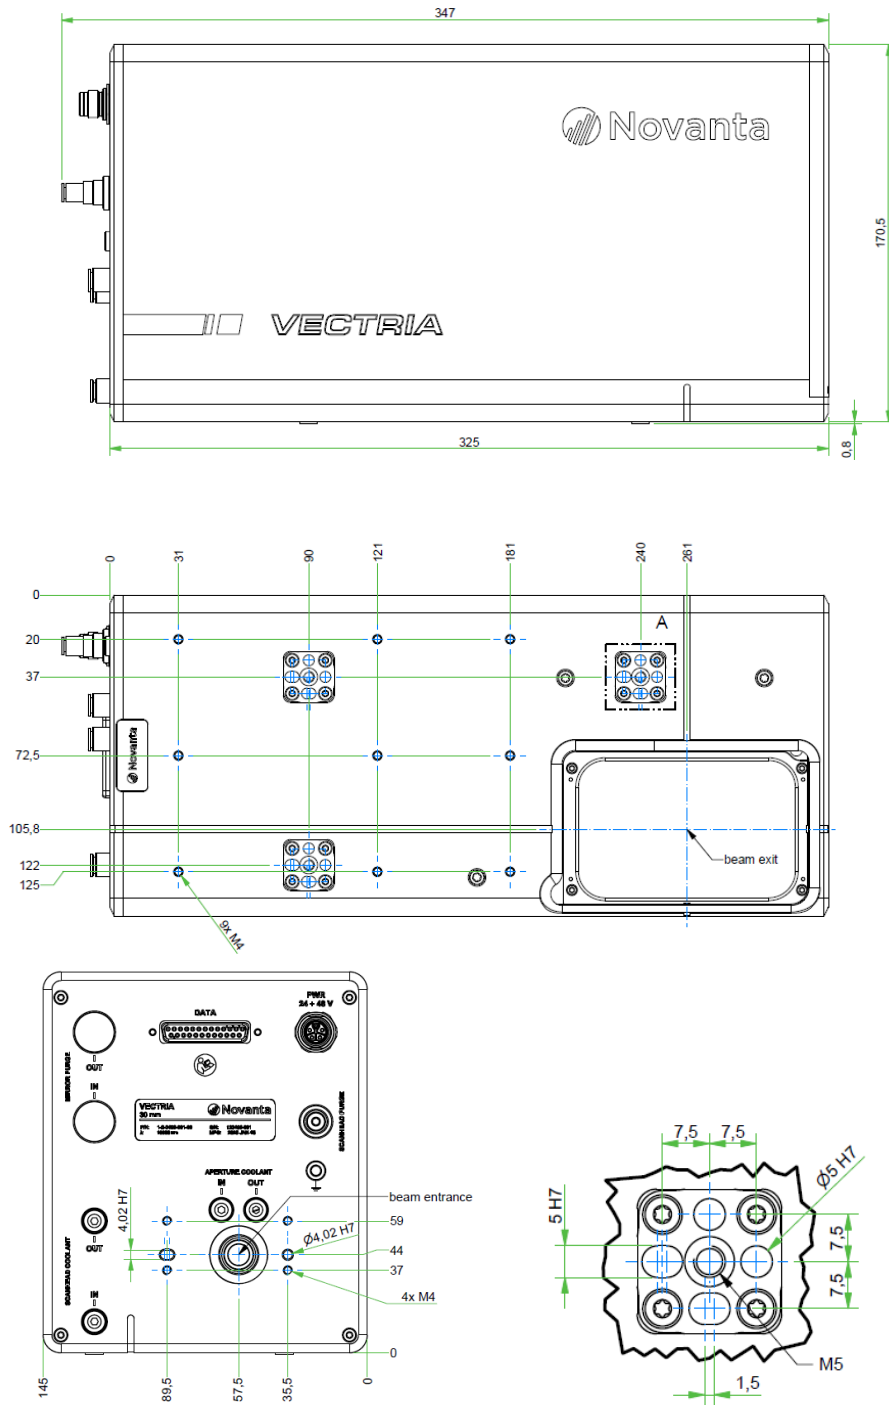

Figure 3: Dimensions in millimeter and mounting
- ☐ Machine bolts suitable for mounting the scan head in the laser unit; see Figure 3 on page 25.
- To mount the scan head on its place in the laser unit, use the 3-point mounting as indicated in Figure 3 on page 25.